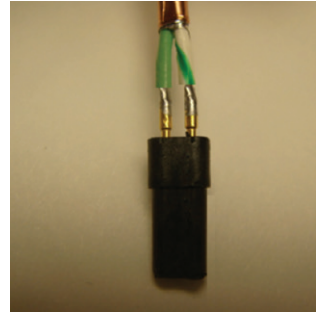

Figure 58: Soldering the twisted pair
18. Solder each twisted pair into a set of contacts. With the solder cup's opening facing you, solder the solid primary in the left contact and the striped primary in the right contact (Figure 58). After soldering all four twisted pairs, clean the solder joints using isopropyl alcohol or equivalent flux cleaner.